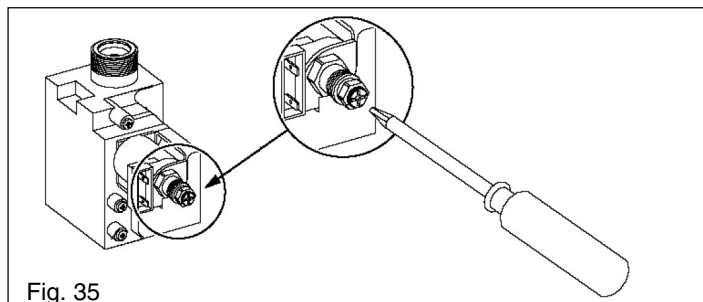

Fig. 35
#### 7.3.2 SETTING THE MINIMUM BURNER PRESSURE (fig. 35)
- Locate and remove the CO test point sealing screw (fig. 35).